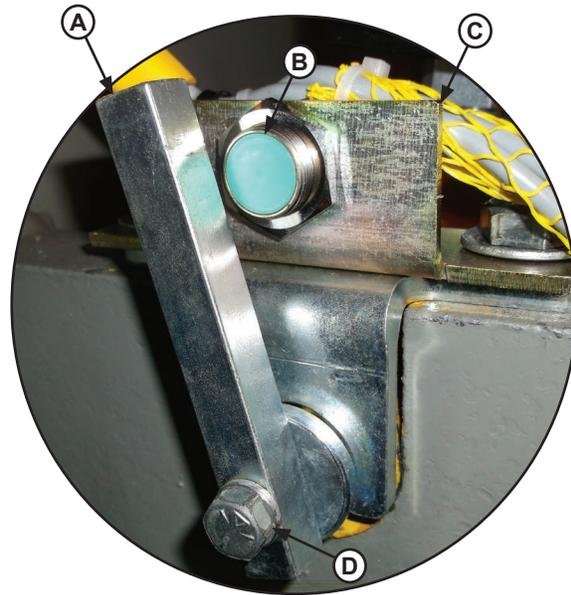

Figure 41
2. Locate the target bar and proximity switch. The lower limit proximity switch (B) is mounted in the bracket (C) located on the trunnion for the PowerHook cylinder; see Figure 41.